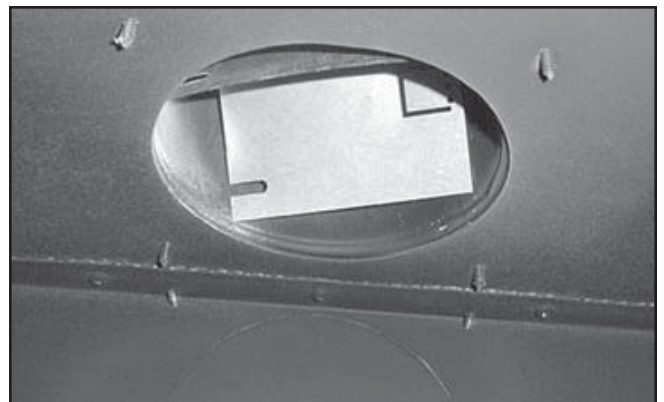

Figure 7.20 Baffle in Place
- Release pressure on the baffle so that it is wedged against the sides of the flue collar. See Figure 7.20.